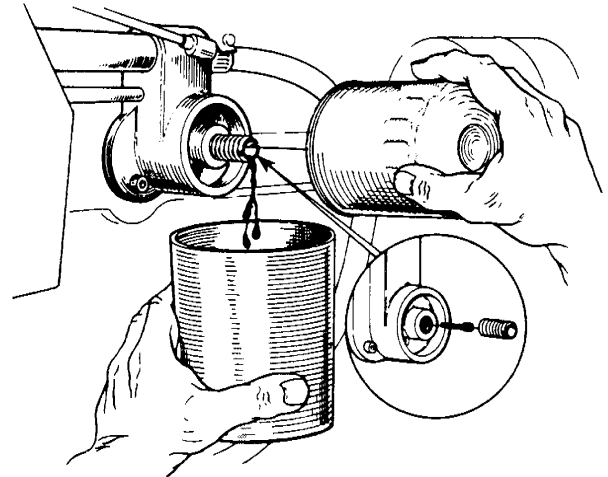

FIGURE 2
4. Replace lubricating oil filter, Fig. 2. See Note.